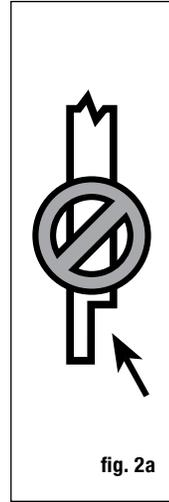

fig. 2a
**Important: Do not notch the 4x4 railing posts.** Notching will reduce the strength of the post and could result in railing collapse or failure (fig. 2a).